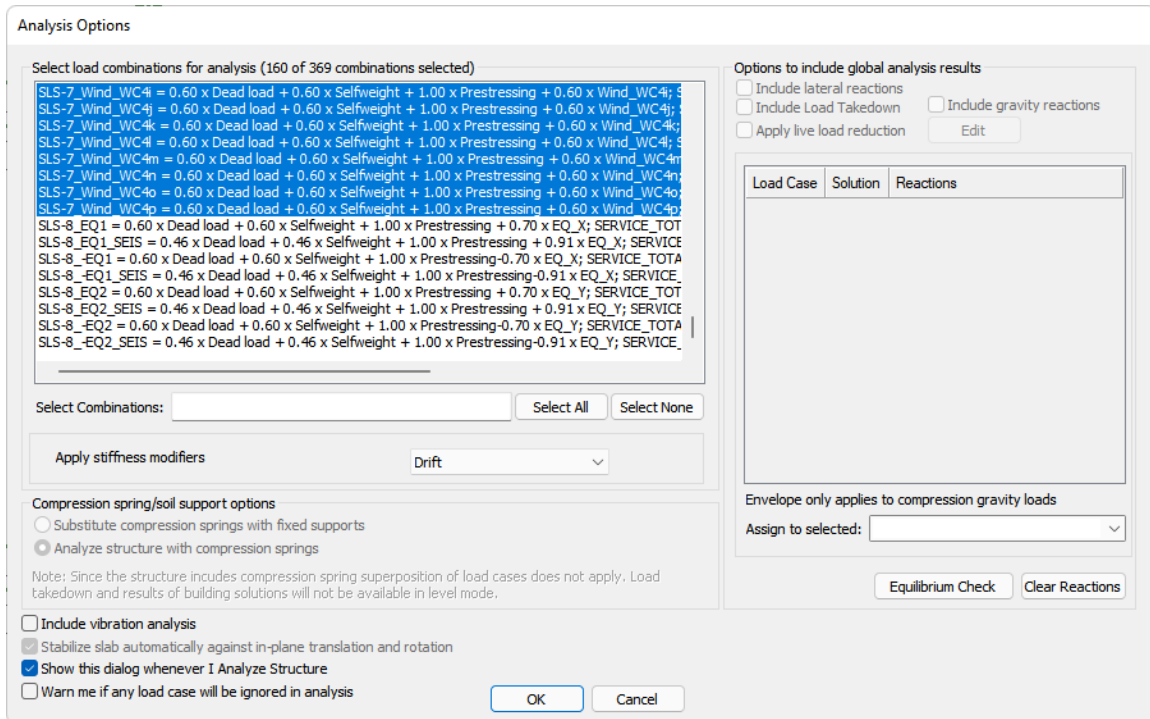

FIGURE 13-9
- In the drop-down menu next to *Apply stiffness modifiers*, select **Drift**. Your Analysis Options window should now look like **FIGURE 13-9**.